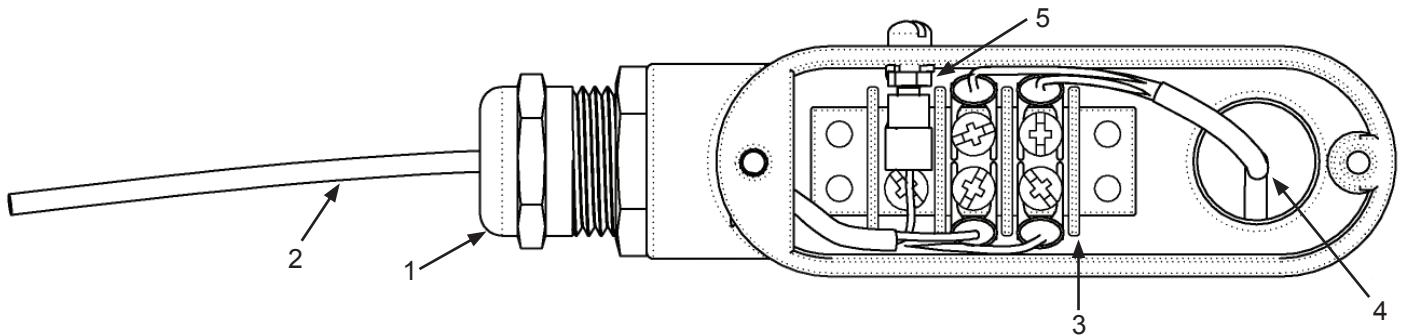

Figure 15 Remote Wire Connections
Step 2. Loosen the outer cap from the water-tight gland on the junction box (1) and insert the remote cable from the FlowCom (2). Using the wire connection block inside the junction box (3) connect the sensor cable wires (4) to the FlowCom remote cable, matching the red wires, the black wires. Attach the bare ground wire from the FlowCom remote cable to the grounding lug on the side of the junction box for an optional external good earth ground. See Figure 15.